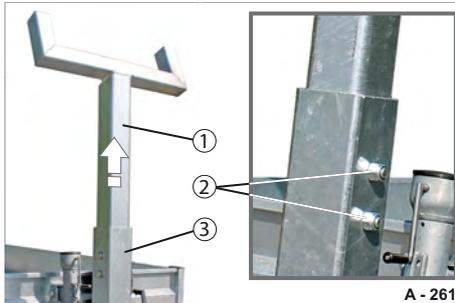

Fig. 197 U-tube fork
- ▶ Release the bolt connection (Fig. 197/2) on the mount.
- ▶ Pull out the U-tube fork (Fig. 197/1) in an upward direction.